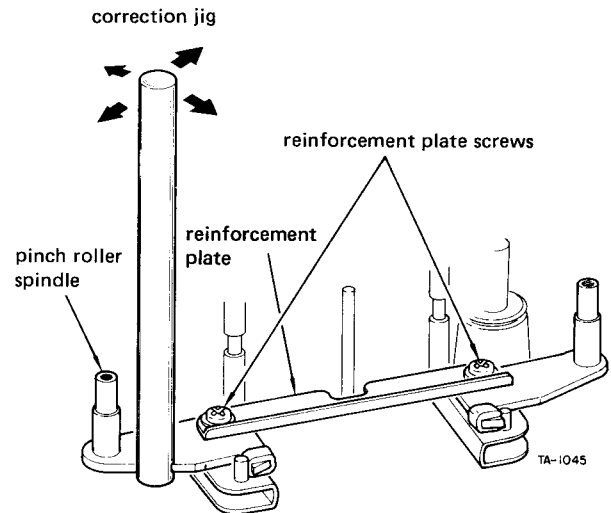

Fig. 2-21 Correction of pinch roller/capstan non-parallelism.
12. If not parallel, loosen the two screws mounting the reinforcement plate then adjust using the correction jig (TEAC P/N 5736000100) as shown in Fig. 2-21.